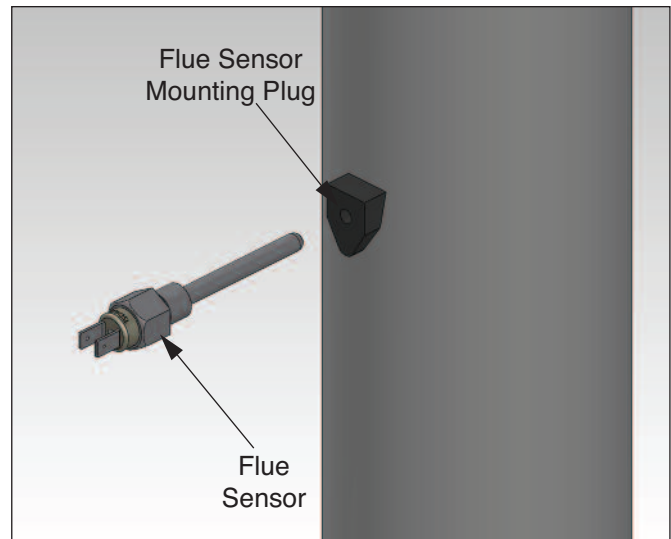

Fig. 1: Flue Sensor Installation
1. Verify that the flue sensor mounting plug is oriented correctly in the PP vent outlet pipe. The point of the flue sensor mounting plug should be pointed down as shown in Figure 1.